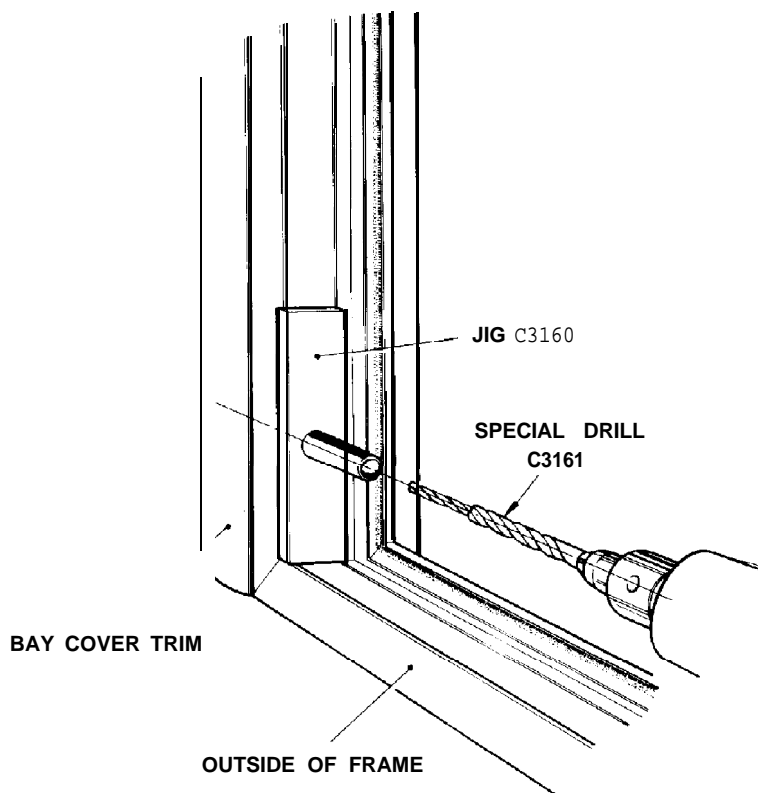

Figure 2.16 - DRILLING SECURING HOLES
8.6.2 Method 2 : On-Site Assembly (Fig 2.16)
Secure the cover trim to window frames by using drill jig A3160 and special drill A3161. Position the drill jig A3160 against the outside edge of the outer frame and drill a hole through the window frame and bracket of the bay cover trim. Refer to Fig 2.16. Drill at least four holes in each frame edge through the cover trim.